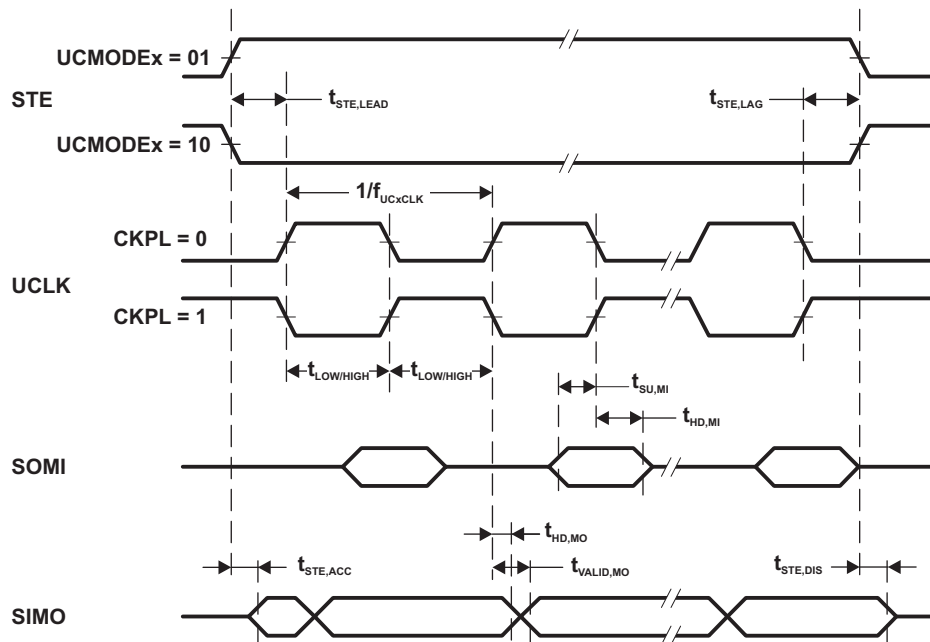
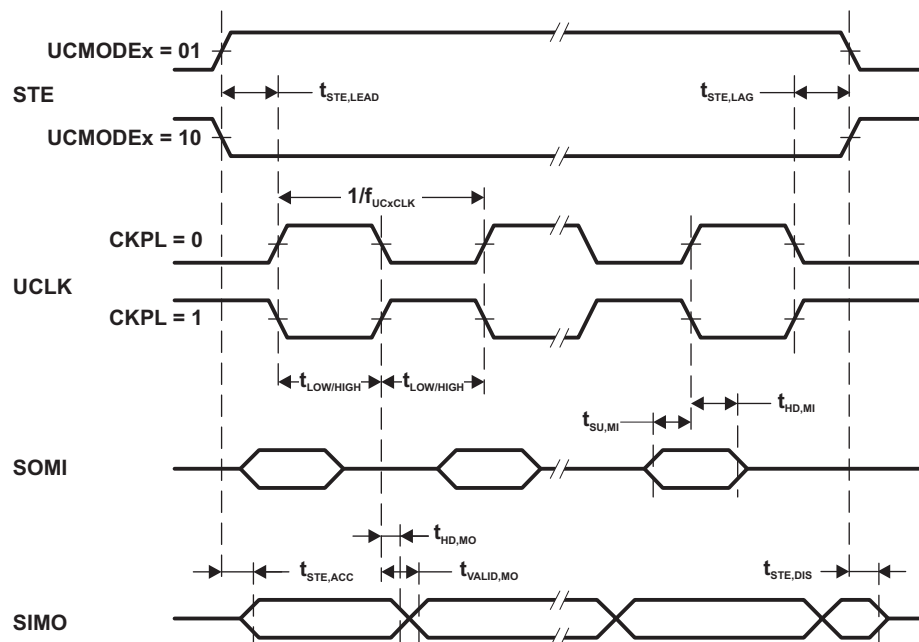

Figure 5-10. SPI Master Mode, CKPH = 0
Figure 5-11. SPI Master Mode, CKPH = 1
- (1) f_{UCXCLK} = 1/2t_{LO/Hi} with t_{LO/Hi} = max(t_{VALID,MO}(eUSCI) + t_{SU,SI}(Slave), t_{SU,MI}(eUSCI) + t_{VALID,SO}(Slave)). For the slave's parameters t_{SU,SI}(Slave) and t_{VALID,SO}(Slave) refer to the SPI parameters of the attached slave.
- (2) Specifies the time to drive the next valid data to the SIMO output after the output changing UCLK clock edge. Refer to the timing diagrams in Figure 5-10 and Figure 5-11.
- (3) Specifies how long data on the SIMO output is valid after the output changing UCLK clock edge. Negative values indicate that the data on the SIMO output can become invalid before the output changing clock edge observed on UCLK. Refer to the timing diagrams in Figure 5-10 and Figure 5-11.